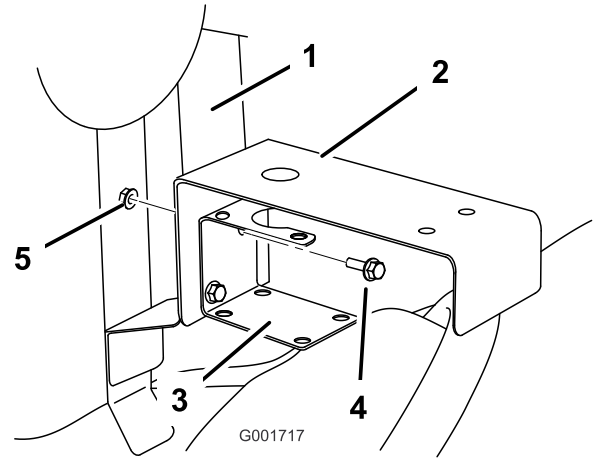

Figure 11
7. Install the control valve bracket between the supply tee bracket and the mounting frame (Figure 11) using the fasteners removed previously.